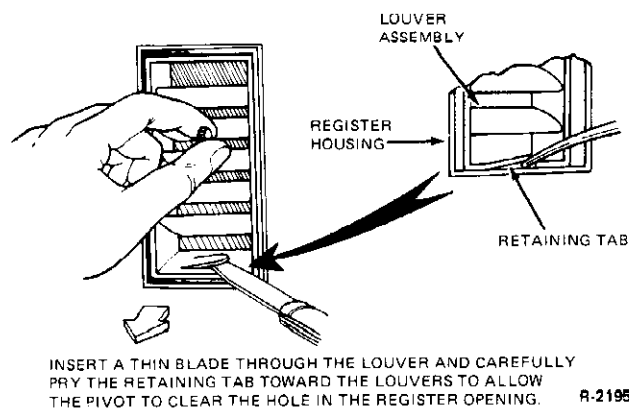

FIG. 25 Instrument Panel Register Removal
1. Insert a thin blade under the retaining tab (Fig. 25) and pry the retaining tab toward the louvers until the retaining tab pivot clears the hole in the register opening.